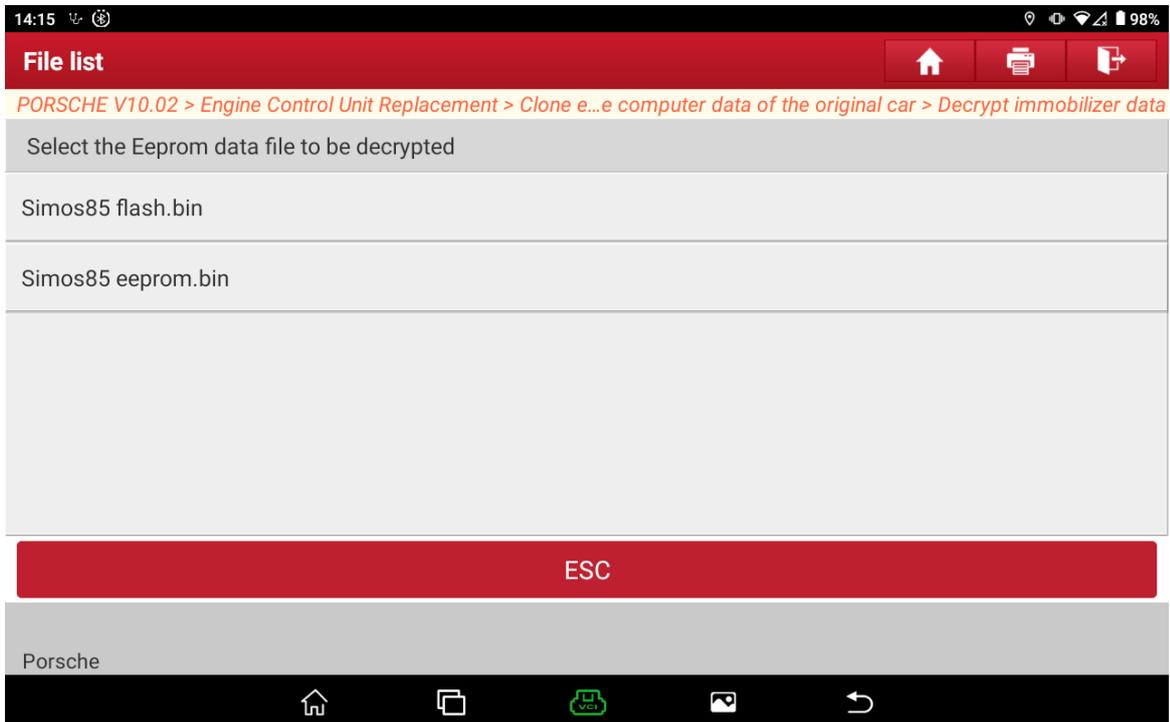
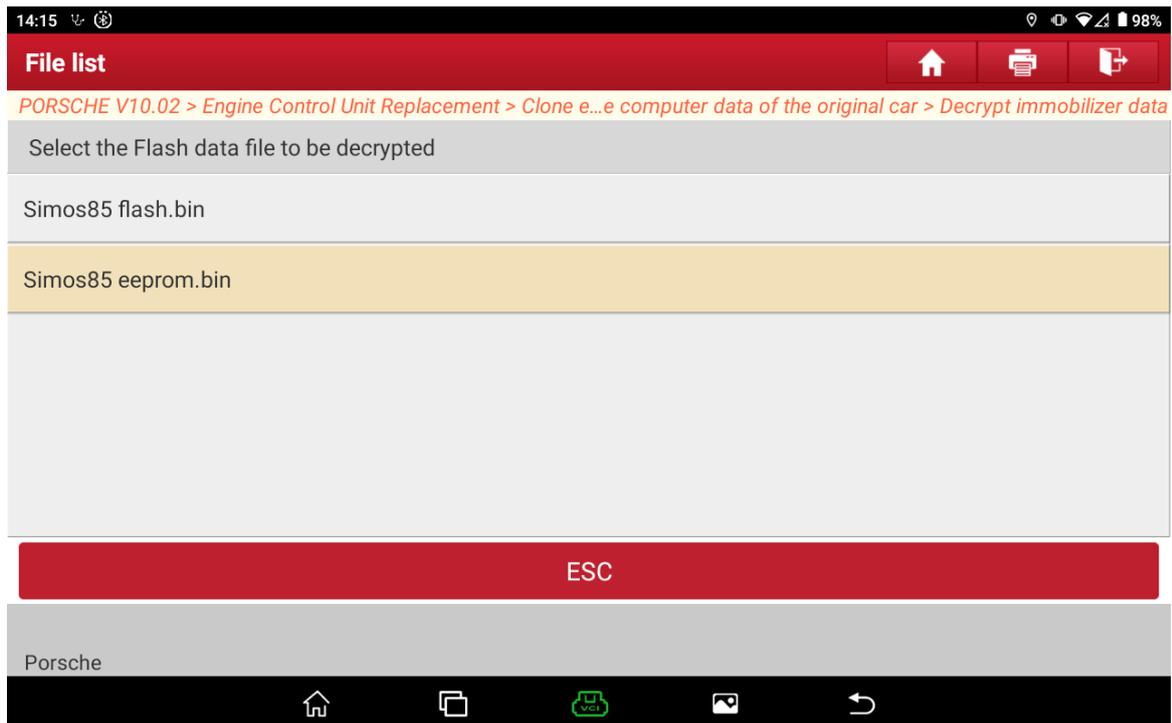
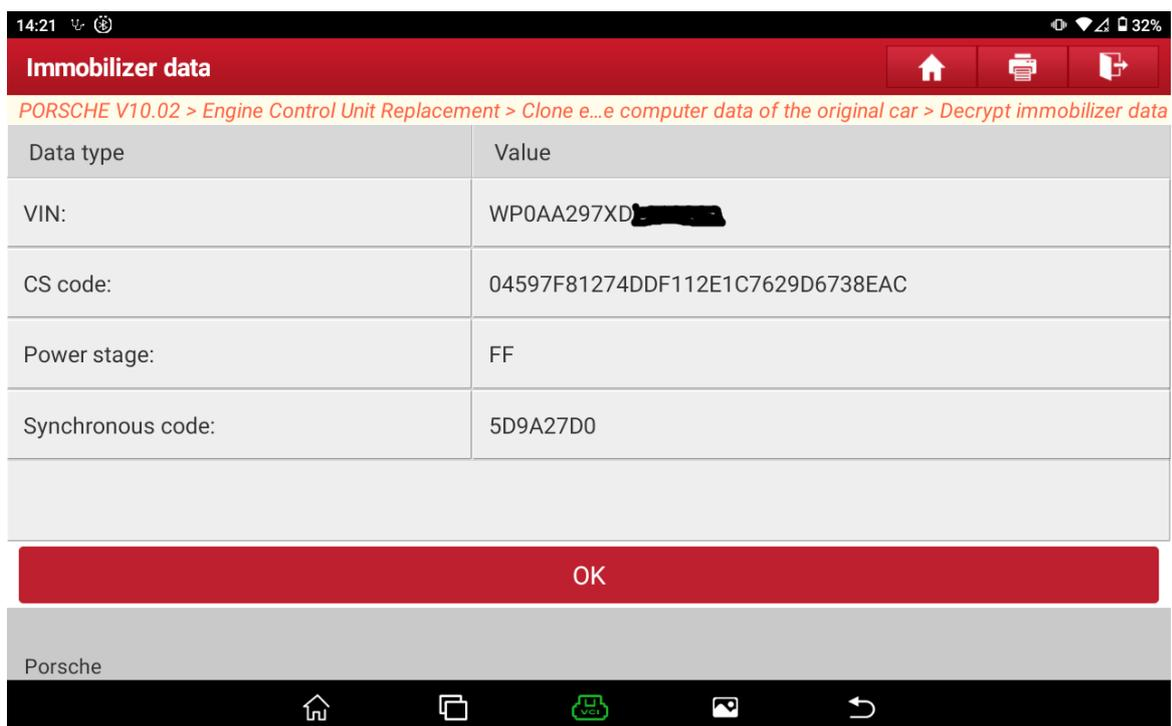

Figure 12
Figure 13
Figure 14
8. Select **【Decrypt immobilizer data】**, load the backed up data file, as shown in Figure 12 and Figure 13, and the decryption result is shown in Figure 14: